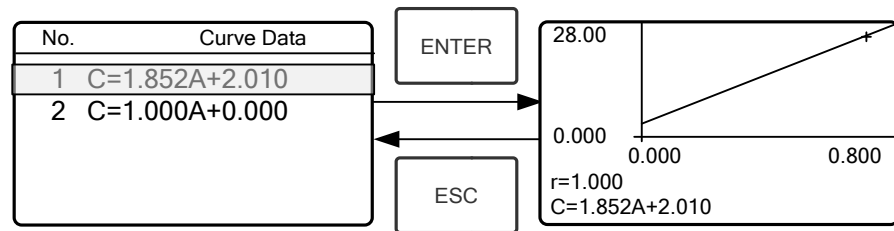

Fig. 4-16
- ★ Move the cursor on the equation that you need and press  to confirm. Then the corresponding curve will display on the screen. (Fig. 4-16)